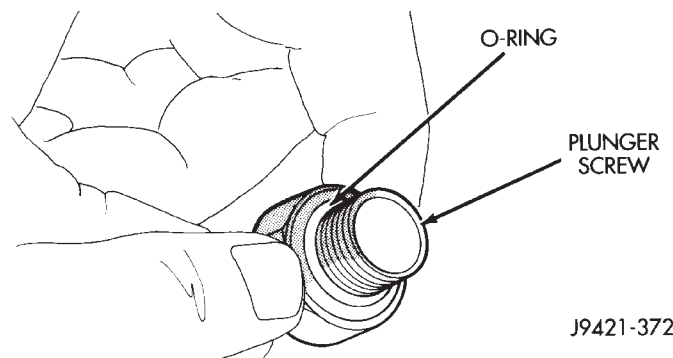

Fig. 88 O-Ring Installation On Poppet Plunger Screw
(13) Install new O-ring on poppet screw and install screw in front case (Fig. 88). Tighten screw to 16-24 N·m (12-18 ft. lbs.).